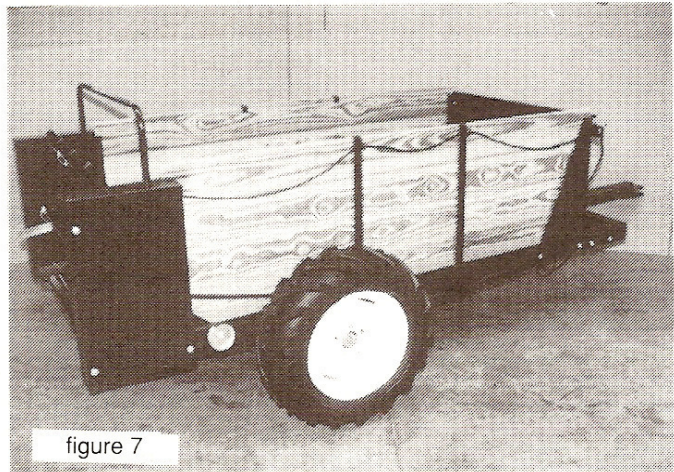

figure 7
12. Insert side boards into slots provided by front panels and slots in transmissions. Insert angle iron side stakes to provide outward support of the side boards (see figure 7).
14. Install transmission shields (figure 7) using $3/8 \times 1$ inch hex bolts, lock washers, and flat washers on rear two holes. Use $3/8 \times 1$ bolt, nut, washer, and lock washer at lower front hole to secure bracket to shield, and use the front transmission mounting bolt to secure the other end of bracket.